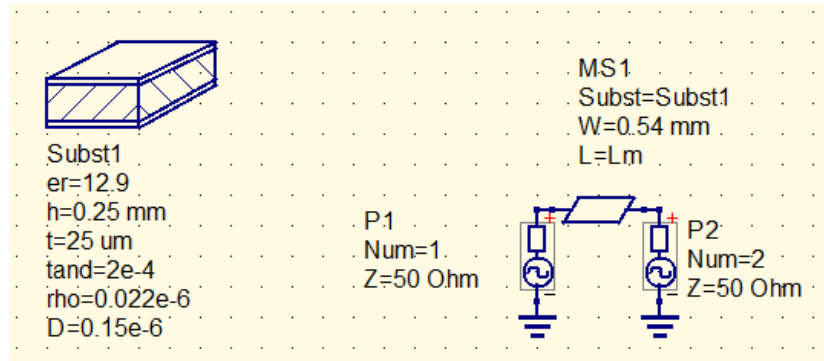

Figure 1
- 2.2 Compare the frequency response of the 50- and 100-Ohm strip lines with lengths of 0.1, 2 and 10 mm. An example of the calculated design is shown in Fig. 1.